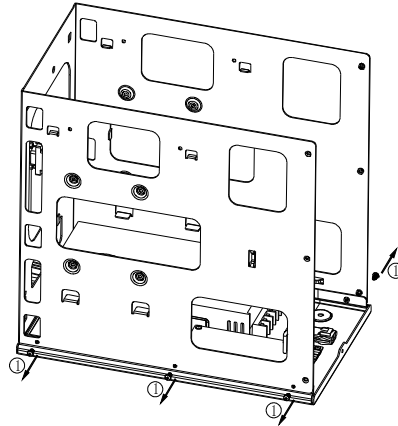

Figure 8
1. Remove the six screws (M3.0X6.0) that secure the housing using a screwdriver, to remove the housing □, shown as Figure 8.